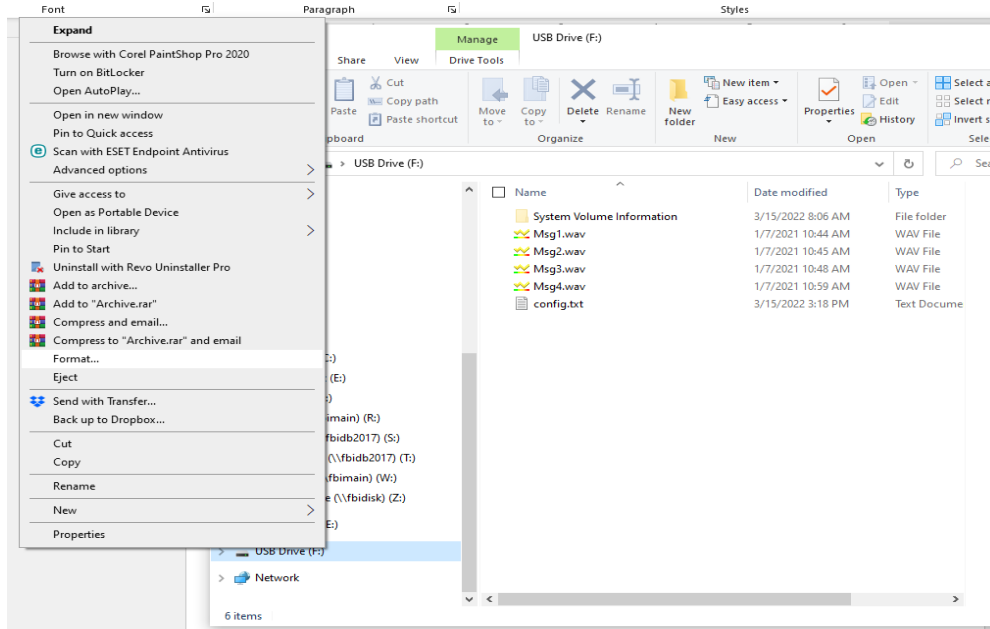

fig 4.0
1. Right click on the USB drive assigned to your announcer device. For my example the computer gave it drive F: See fig 4.0 below